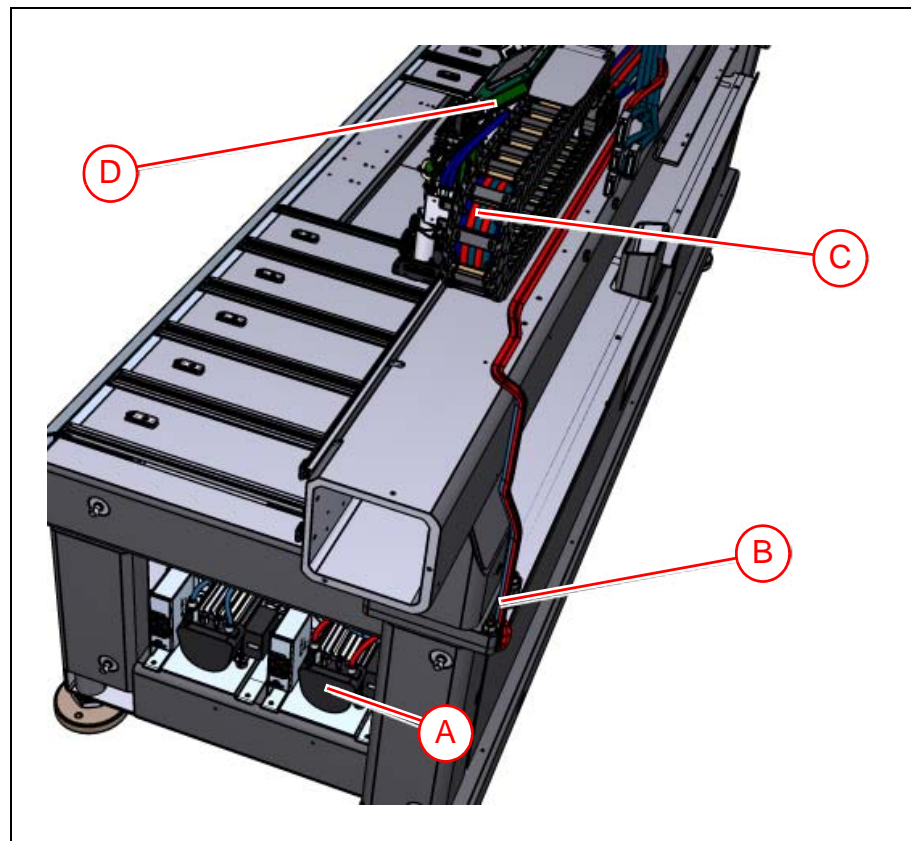

Figure 10-3. Routing of hoses.
The hoses ('B' in Figure 10-3) with vacuum and pressure are routed from the pump ('A') along the back side of the machine, up and through the cable chain ('C') and ends in the X-wagon vacuum block ('D').
- The red colored hoses in Figure 10-3 are connected to the right vacuum pump and the right X wagon. This is the system used in the MY100SX model.
- The blue colored hoses in Figure 10-3 are connected to the left vacuum pump and the left X wagon. This system is only available in the MY100DX model.